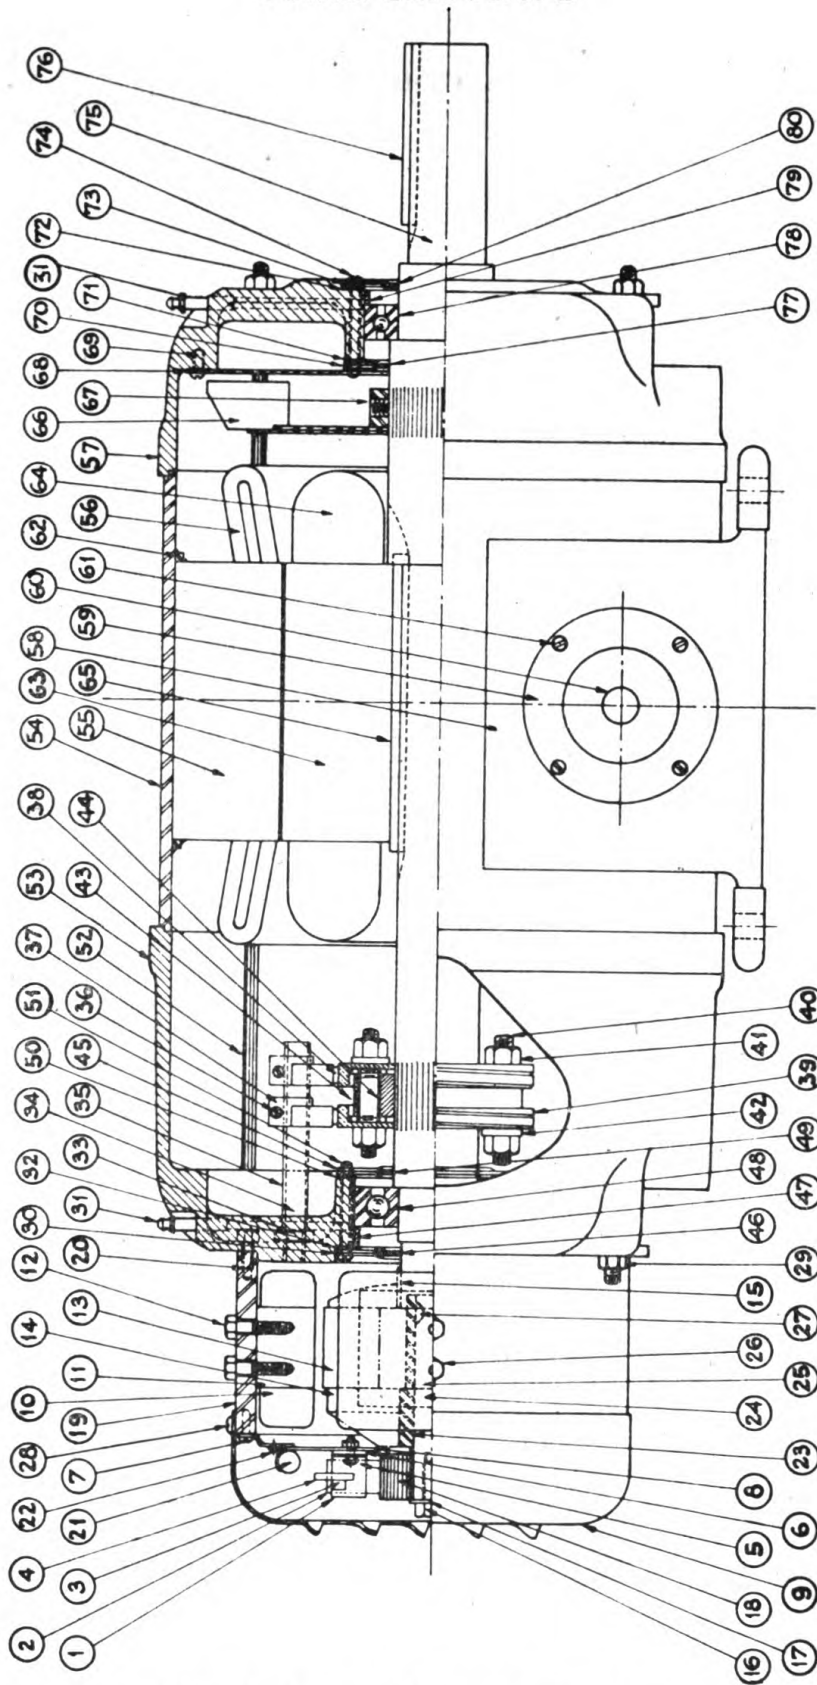

Figure 26.—A-C power generator
m. A-C power generator (figure 26).—